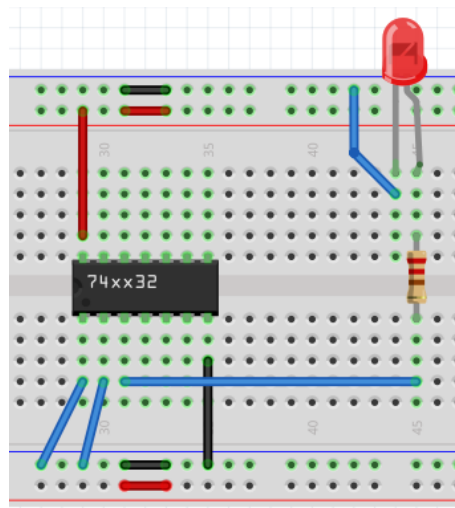

Figure 18
2. Connect **pin 7** to **GND bus** as shown by the vertical black wire in Figure 18.
3. Connect **pin 14** to **5V bus** as shown by the vertical red wire in Figure 18.
4. Connect the output **Y** of the first OR gate (**pin 3**) to the **resistor** as shown by the horizontal blue wire in Figure 18.
5. Connect input **A** of the first OR gate (**pin 1**) to **GND bus** (logic 0) as shown by the diagonal blue wire in Figure 18.
6. Connect input **B** of the first OR gate (**pin 2**) to **GND bus** (logic 0) as shown by the diagonal blue wire in Figure 18.